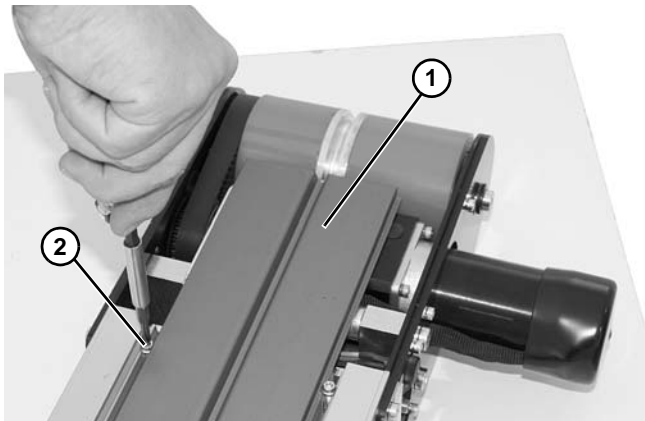

Figure 157
2. Remove wear plate (**Figure 157, item 1**) by removing plate fastening screws (**Figure 157, item 2**) on each side and end of conveyor